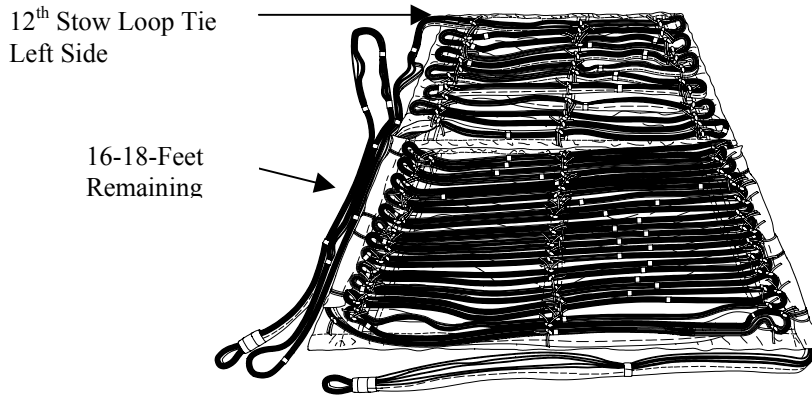

Figure 9. Extraction Line Stowed to Top Panel.
- j. Ensure that the running end of the extraction line extends approximately 16-18 feet from the top left corner of the top panel. Secure to 12th stow loop left side with one turn type I, 1/4-inch cotton webbing (figure 9).